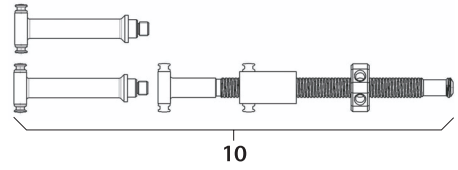

Fig. 15
- ▶ Assemble distraction spindle **10**, see Fig. 15.